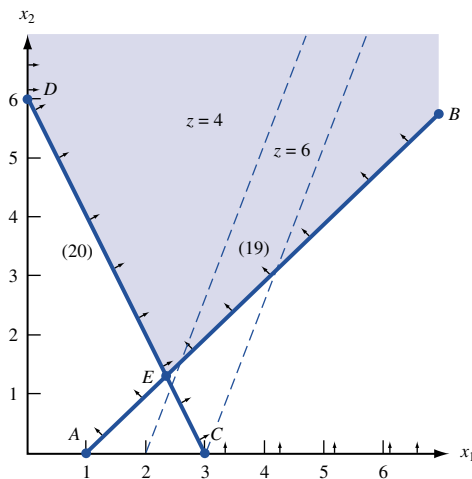

FIGURE 7
Solution From Figure 7, we see that (19) is satisfied by all points on or above AB (AB is the line $x_1 - x_2 = 1$). Also, (20) is satisfied by all points on or above CD (CD is $2x_1 + x_2 = 6$). Thus, the feasible region for Example 5 is the (shaded) unbounded region in Figure 7, which is bounded only by the x_2 axis, line segment DE , and the part of line AB beginning at E . To find the optimal solution, we draw the isoprofit line passing through $(2, 0)$. This isoprofit line has $z = 2x_1 - x_2 = 2(2) - 0 = 4$. The direction of increasing z is to the southeast (this makes x_1 larger and x_2 smaller). Moving parallel to $z = 2x_1 - x_2$ in a southeast direction, we see that any isoprofit line we draw will intersect the feasible region. (This is because any isoprofit line is steeper than the line $x_1 - x_2 = 1$.)